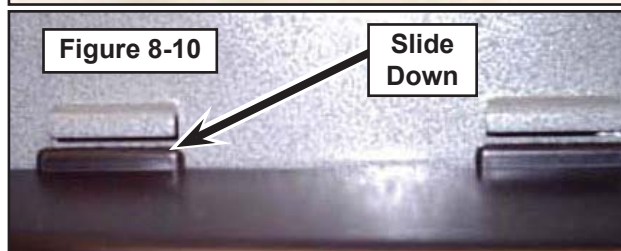

Figure 8-10
4. Slide left side cover towards bottom of dispenser, and remove left side cover (**Figure 8-10**).